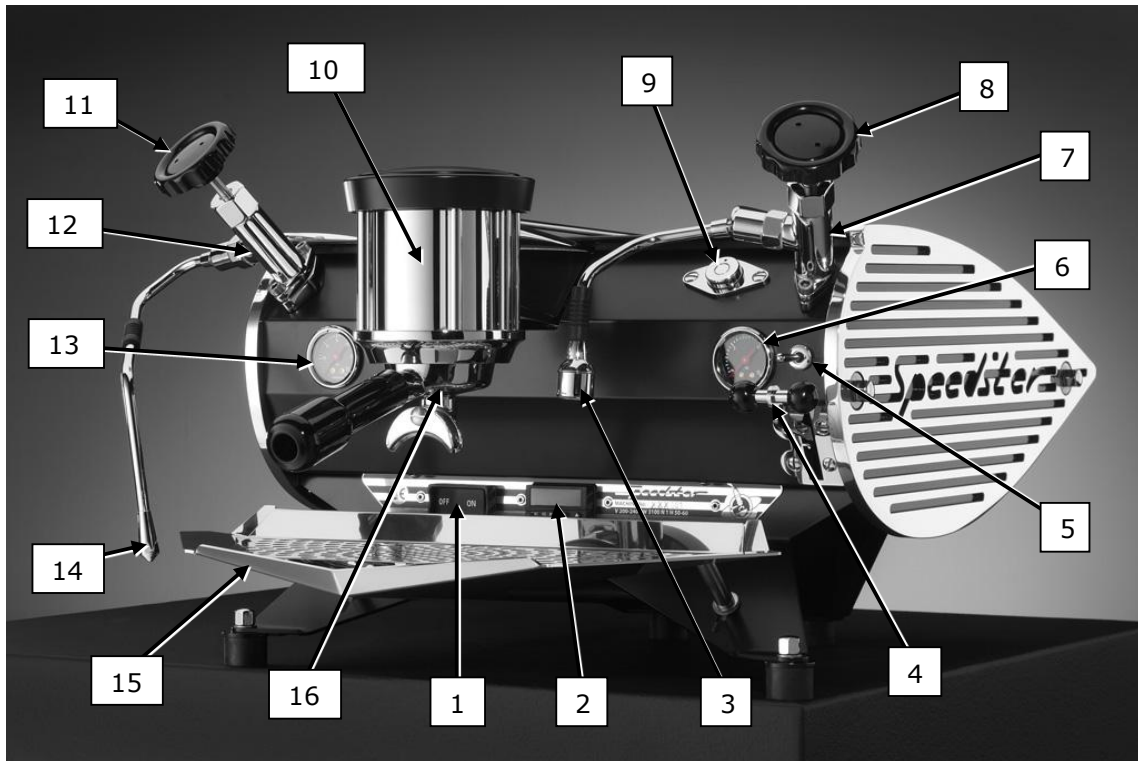

Figure 1. Showing main operational parts of the Speedster
3. Make sure that the Speedster rests on its feet. Turn the main switch on the machine to "ON". The main switch is mounted on the model tag on the front of the machine (see figure 1, item 1).
The machine will now fill both boilers (when the front boiler is not already filled). Put the 3-way brewing lever on the right hand side of the machine (figure 1, item 4) in the lowest position ("pump on") until water without air leaves the group. This procedure expels all air from the coffee boiler.
The display of the PID temperature regulator in the centre of the model tag (see figure 1, item 2) will not show any value until a minimum water level in the steam boiler is reached.
The 3-way brewing lever on the right hand side of the machine (see figure 1, item 4) operates the group valve and the pump. The lever can be fixed in 2 slots and thus has three operating positions:
When you switch from resting position directly to the lower position, the primary increasing pressure is absorbed by a piston and spring within the so-called "progressive pre-infusion cylinder" up to approximately 3 Bar. As soon as the piston reaches its ultimate position, the full pump pressure of 9 Bar is applied to the coffee bed. You can easily check the functioning of the progressive pre-infusion as the guiding rod of the piston will protrude through an opening in the front panel of the machine just left of the hot water tap (see figure 1, item 9).